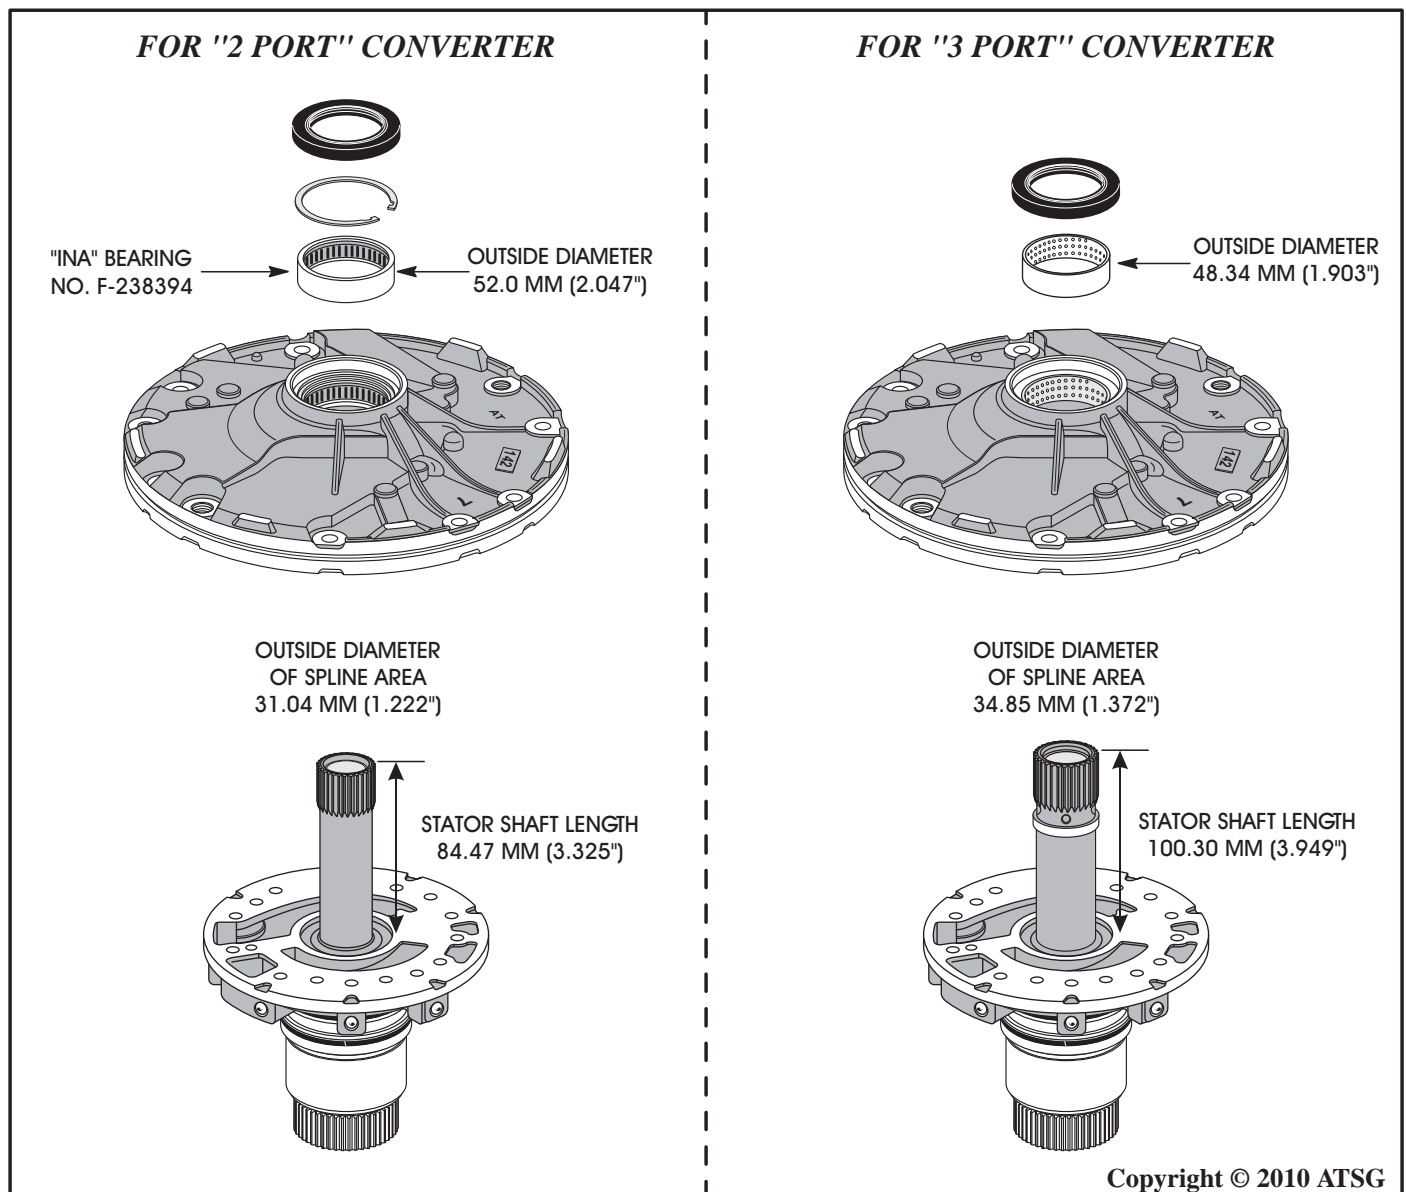

Figure 145
*Note: The Oil Pump, Turbine Shaft and Spacer Plate are unique to the 2 Port Converter. Refer to Figure 145 & 146 for dimensional differences. Refer to Page 124 for spacer plate differences and identification.*
*Note: The Oil Pump, Turbine Shaft and Spacer Plate are unique to the 3 Port Converter. Refer to Figure 145 & 146 for dimensional differences. Refer to Page 124 for spacer plate differences and identification.*
The oil pump body for the 2-port converter is equipped with a caged needle bearing to support the torque converter and retained with a snap ring, as shown in Figure 145. The 3-port design is equipped with the traditional bushing, and is also shown in Figure 145. Notice also that the bore diameters are different between the two.
The passages in the oil pump cover (stator) are different between the 2-Port version and the 3-Port version. The oil pump cover for the 2-port converter is equipped with a much shorter stator shaft than the 3-port design and has a smaller diameter spline area on the stator shaft splines, as shown in Figure 145. Notice also the holes below the spline area on the 3-port design stator shaft, which is the easiest means of visual identification.